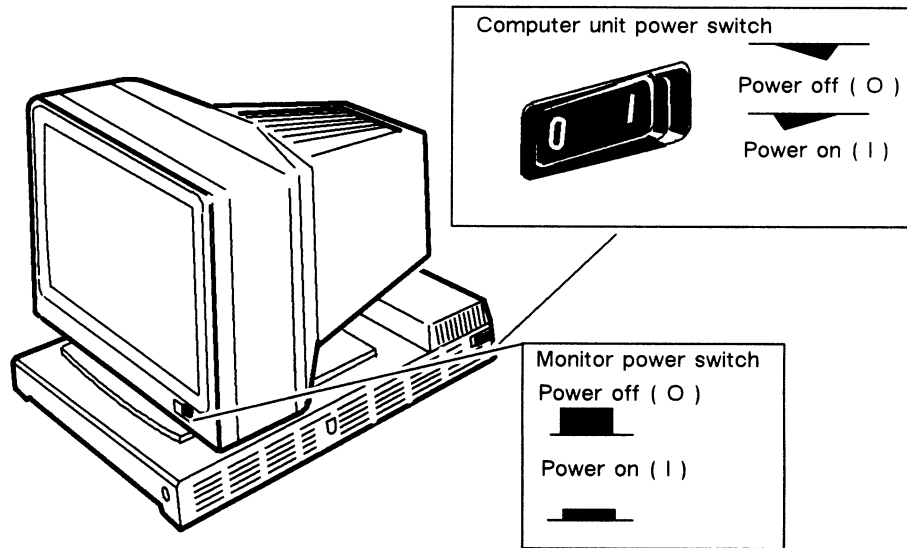

Figure 2-9 Power Switches for the Computer Unit and Monitor
2. Make sure that the power switches for the computer unit and monitor are off as shown in Figure 2-9.